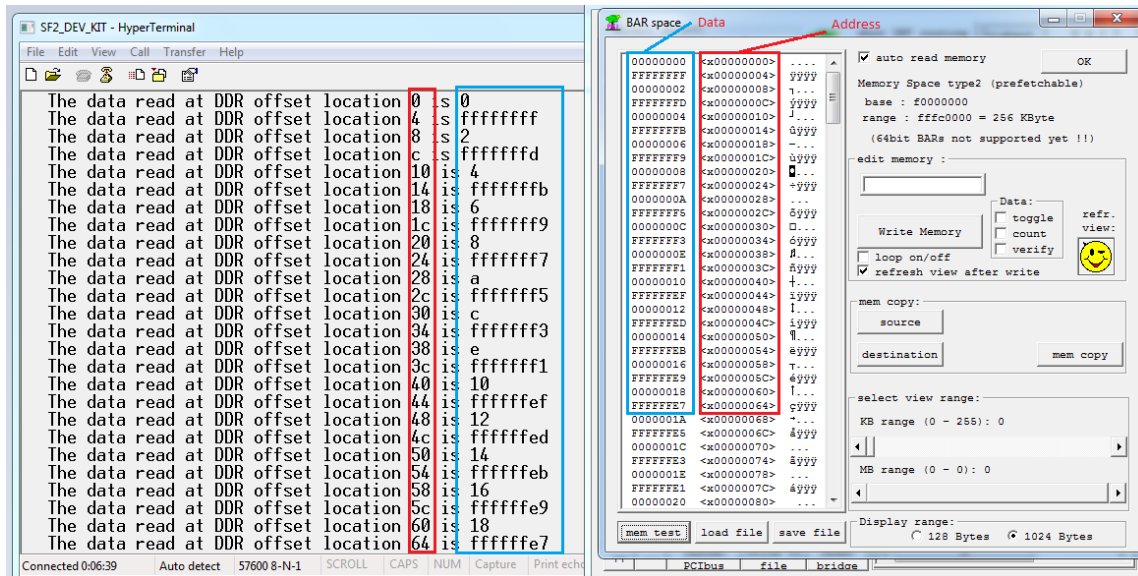

Figure 25. Comparing DDR3 Data and PciTree Bar
25. Compare the HyperTerminal values with PciTree memory, as shown in Figure 25. This confirms successful completion of read and write from PCIe.